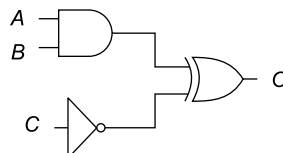

Fig. 6.32 Logic circuit of Ex. 6.22
6.22 Write the truth table of the logic circuit as shown in Fig. 6.32.
Table 6.29 Truth table for Fig. 6.32